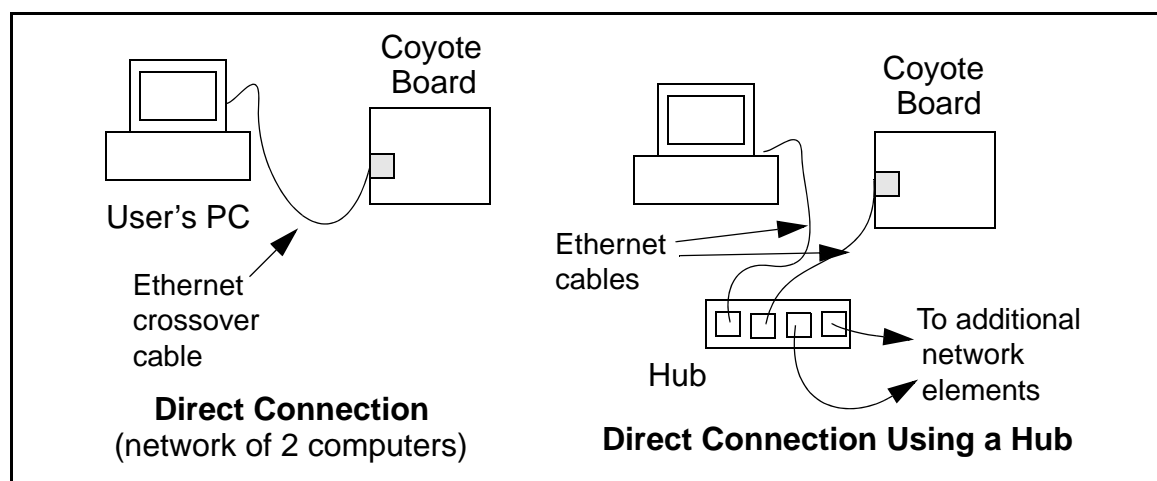

Figure 20. Ethernet Connections
- If you have an Ethernet connection, use a straight-through Ethernet cable to establish an Ethernet connection to the Coyote from an Ethernet hub. These connections are shown in Figure 20.